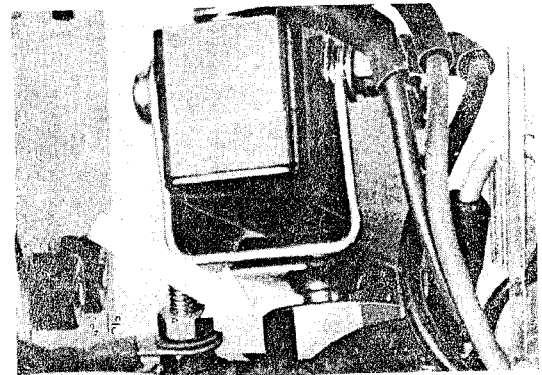

Fig. 5
15. Loosen coupling nut and pull out sensor tube of safety switch, going about it without the use of force; if necessary, apply a rust solvent and withdraw switch with a slight twisting motion (reference Fig. 5 and arrow).